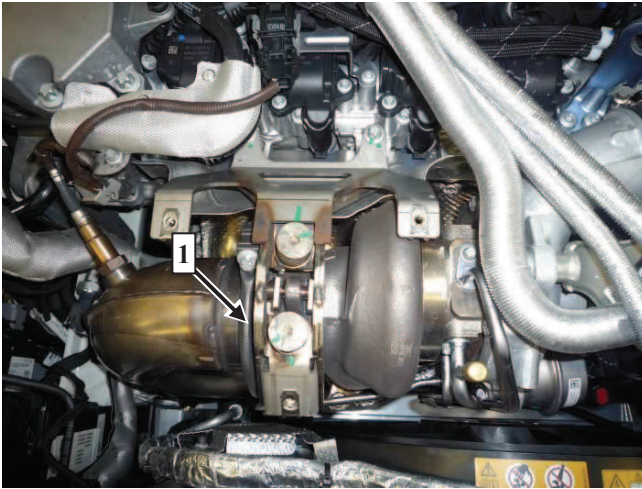

Figure 1
4. Loosen profile clamp (1, Figure 1) and move exhaust pipe to one side.